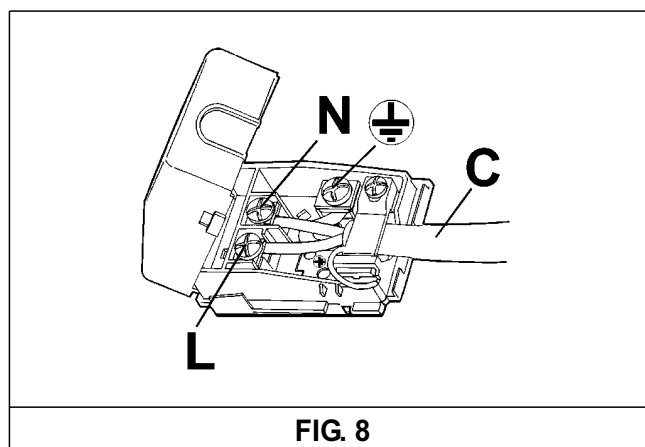

FIG. 8
- If a power cord is not supplied with the appliance, connect a cable with a suitable section to the terminal board (see the table in paragraph 6) keeping the ground wire longer than the lead wires in conformity with the diagram in fig. 8.
- apply to power cable "C", if not provided, a standard plug suitable for the load indicated on the information label. Connect the wires as in the diagram in fig. 8 taking care to observe the responses listed below: